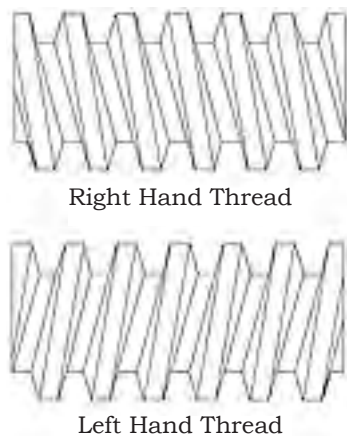

Fig. 2.4: Threads on the bolt
A bolt thread is a ridge of uniform section in the form of a helix on either the external or internal surface of the cylinder. Internal threads refer to those on nuts and tapped holes and external threads are those on bolts, studs or screws. The helix of a thread can twist in two possible directions—right hand (RH) or left hand (LH) (Fig. 2.4). The number of screw threads may vary from 2 to 20 starts or more. As illustrated in Fig.2.5, if the end view is an offset circle, then the screw is a single start.